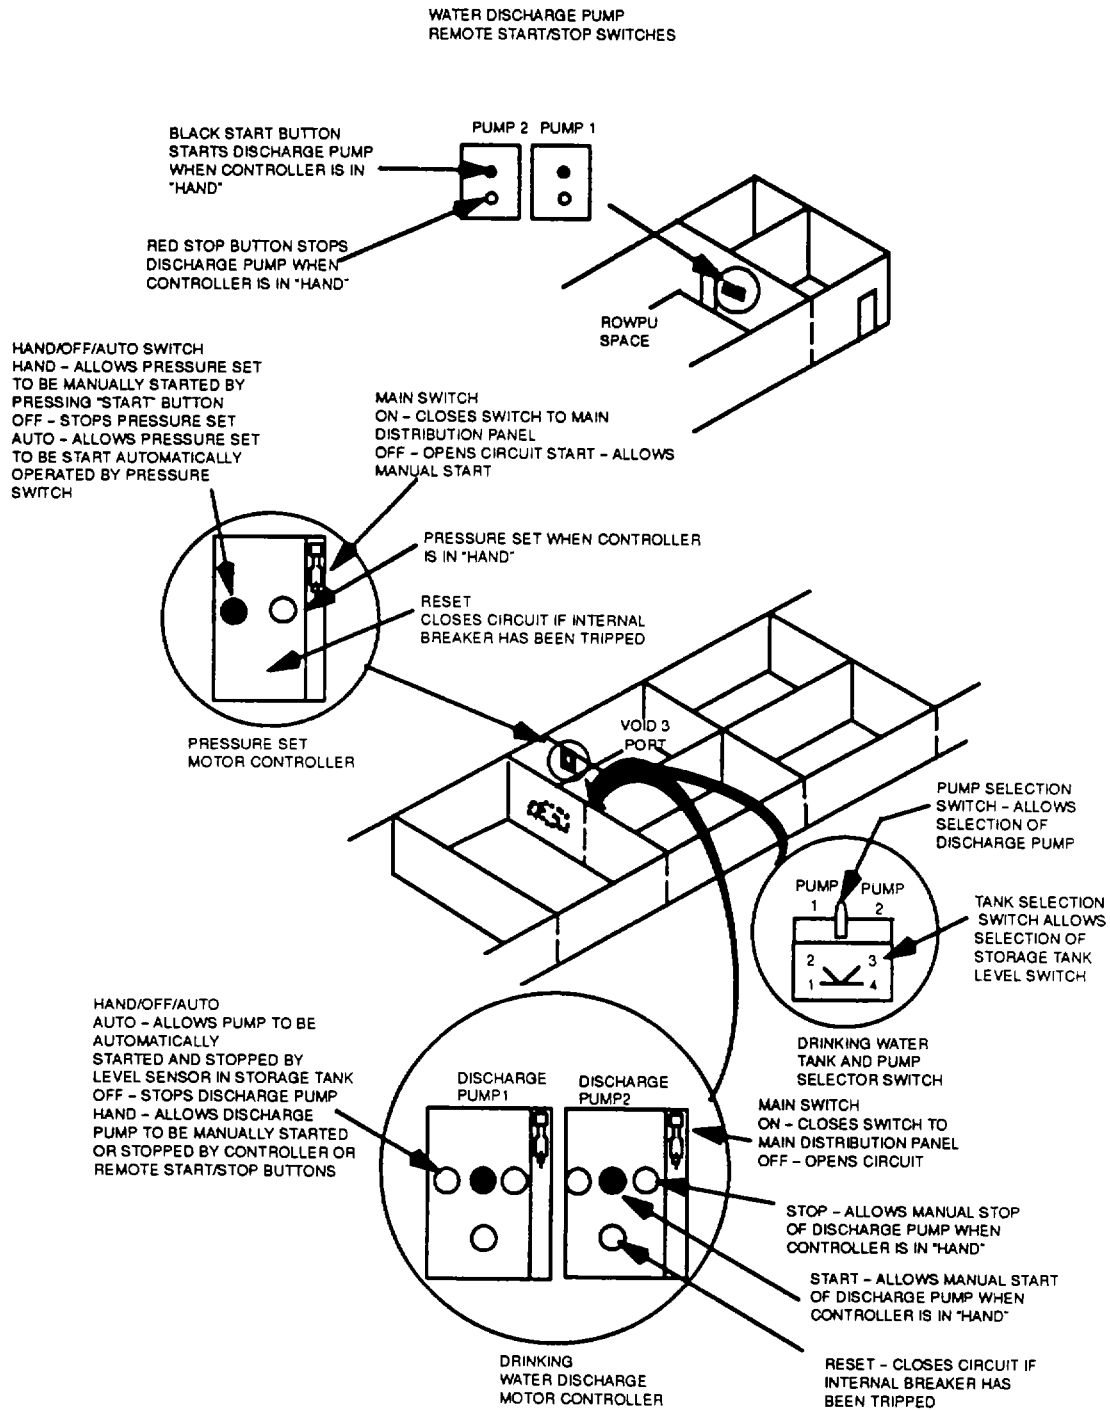

Figure 3-1. Drinking Water System Electrical Controls
- f. On drinking water tank and shore discharge pump selector switch (Figure 3-1), position switches as follows
- (1) Set pump selector switch to pump 1 or pump 2.
- (2) Position tank selector switch (Figure 3-1) to number 1, 2, 3, or 4 tank to be drained. High and low level switches on liquid level Indicator (Figure 3-2) of tank selected then automatically start and stop pump selected In step 1.
- (3) Close switchboard circuit breaker P9 for shore discharge pump 1, or circuit breaker P15 for shore discharge pump 2.
- g. On discharge pump motor controller of pump selected in step f(1), close main switch (Figure 3-1) to ON. Then position HAND/OFF/AUTO switch to AUTO.
Tank(s) are manually drained when motor controller HAND/OFF/AUTO switch is on HAND. Discharge pump is started or stopped by pushing START or STOP button on motor controller or pushing START or STOP button on ROWPU space remote START/STOP switch (Figure 3-1) on ROWPU space forward bulkhead.